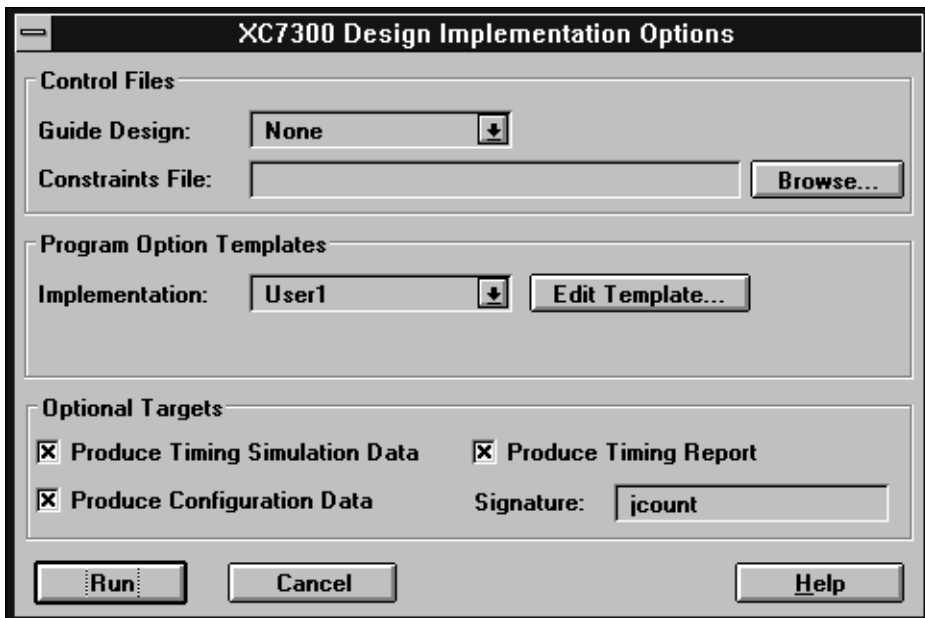

Figure 3-6 XC7300 Design Implementation Dialog Window
3. Select Implement from the Design menu, which brings up the XC7300 Design Implementation Dialog Window, as shown in Figure 3-6.